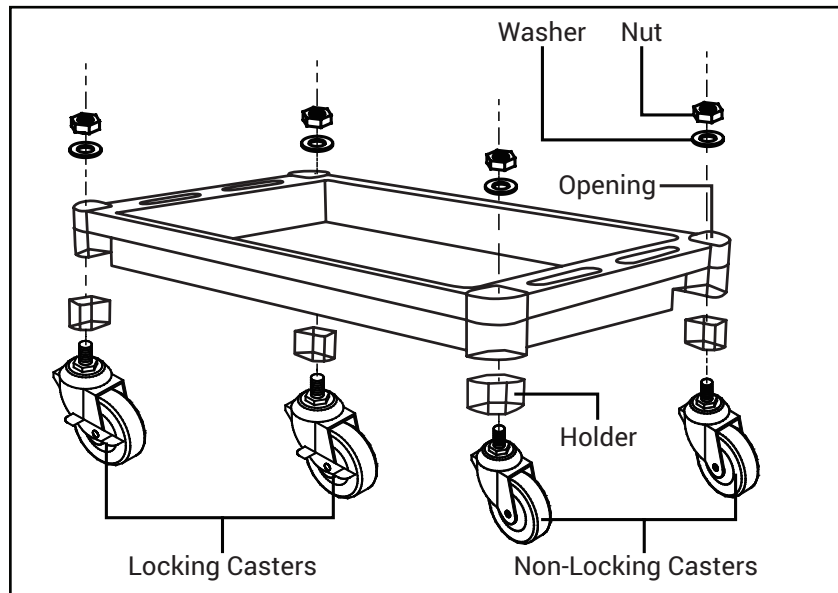

Fig. 2
3. Push a nut into the hex tool and set aside. Propping the shelf on its side, insert a caster through the hole in the holder and the base assembly. Place a washer onto the thread of the caster shank. Take the loaded hex tool and turn right to secure the nut onto the thread of the caster shank. Repeat with all four casters, making sure that the two non-locking casters and the two locking casters are on the same short sides as each other. See Fig. 2.